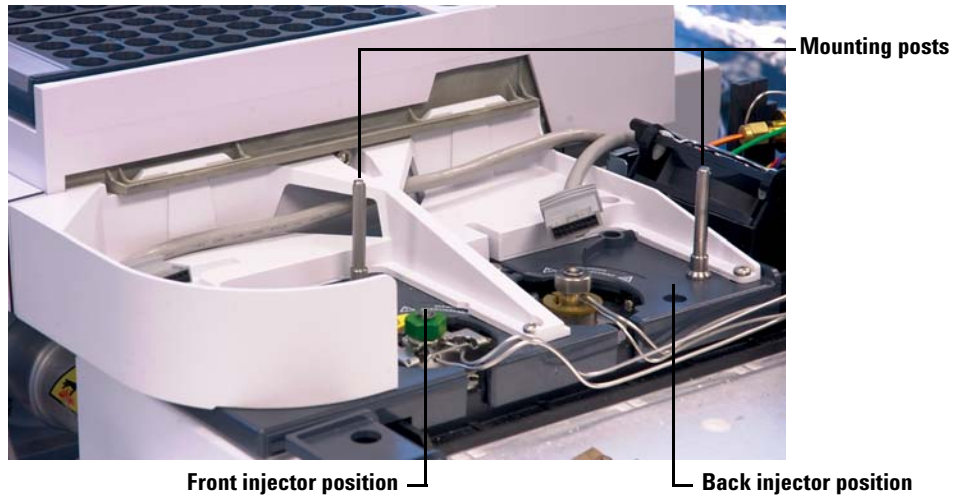

Figure 11 Installing the mounting post(s) on a 7890A GC
- **7890A GC, 7820A GC, and 7820 MSD.** Install into the inlet cover in the front or rear location, as desired. The post must be turned all the way down (**Figure 11**).